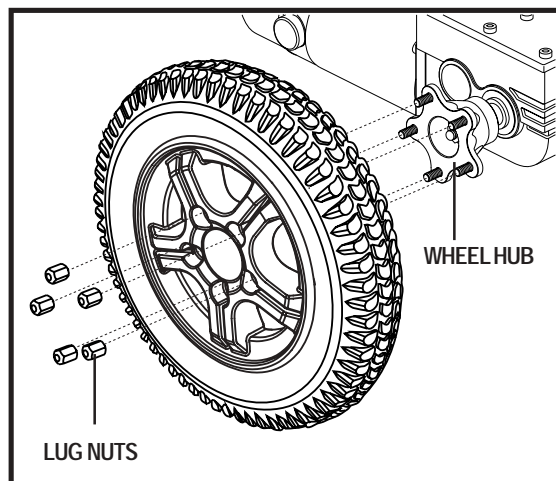

Figure 20. Quantum 600 Series Drive Wheel
4. Remove the five (5) lug nuts from the wheel hub. See figure 20.